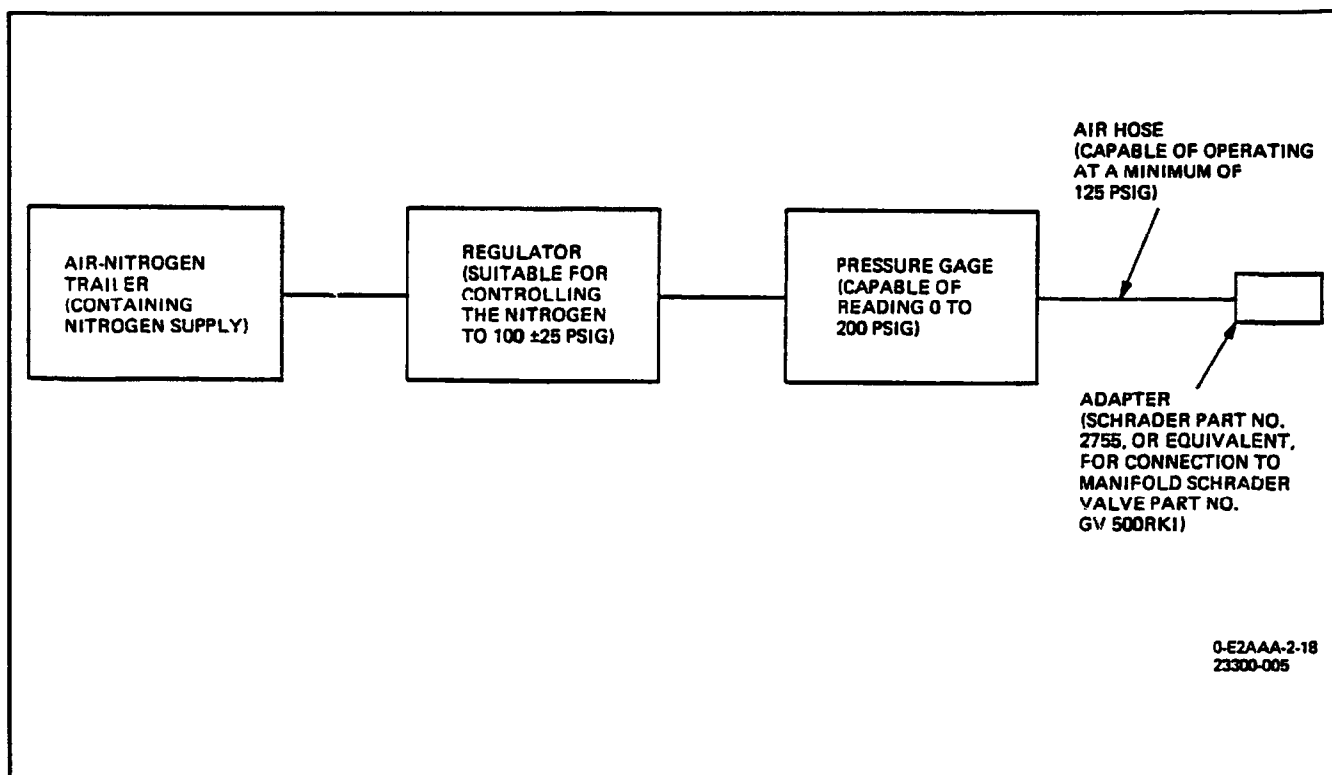

Figure 5. Configuration 2 - Purging Equipment Setup Diagram
a. Set up purging equipment as shown in figure 5.